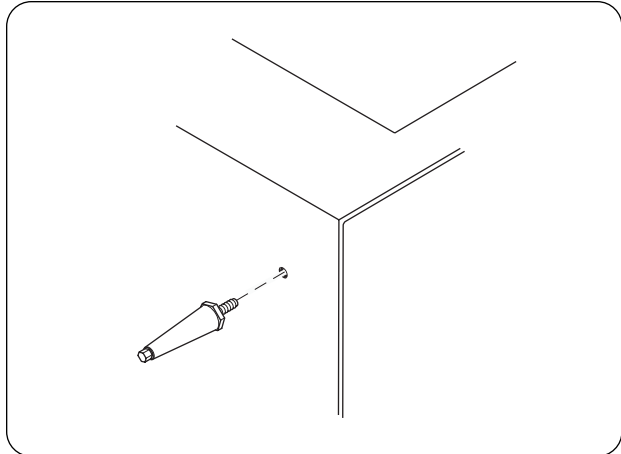

Figure 6. Leg Assembly
2. Attach legs by turning leg clockwise on the bottom of the unit (See Figure 6). Repeat on the remaining legs.